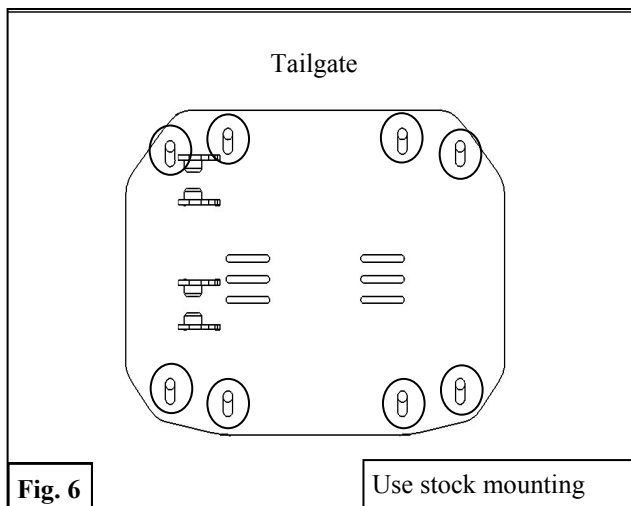

Fig. 6
7. Slide the M14 Nut Plate (2) into the frame. Lift the WJ2 Rear Bumper Assembly (1) onto the frame Rails. See **Figure 6**.
7. The Tailgate Mount (4) will attach to the tailgate using the factory tire carrier mounting holes. See Figure 6.